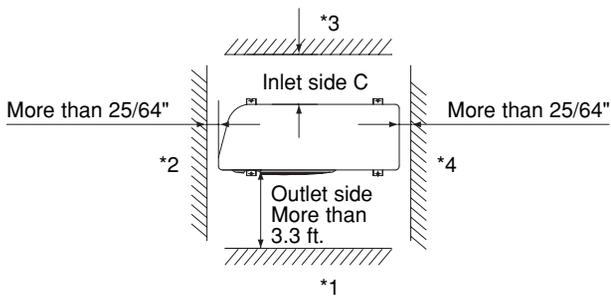
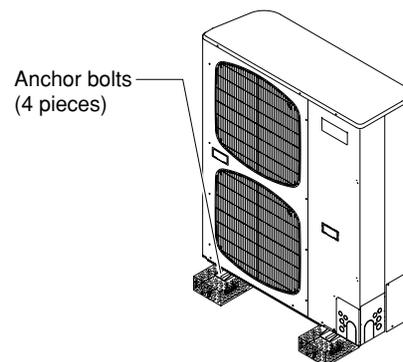

Fig. 2-2
Fig. 2-4
- allow enough room around the unit for air intake/exhaust and possible maintenance. (Fig. 2-2)
- Concerning inlet-side distance “C” (Fig. 2-2)
- If wall *1 is on the outlet side (Fig. 2-2), or if obstructions are present on all 3 sides *2, *3, and *4 (Fig. 2-2), then the minimum distance for “A” and “B” is 6.6 ft. (Fig. 2-4). Even if there is no wall on the outlet side, a minimum of 3.3 ft. is required.
- provide a solid base (concrete block, 4 × 16 in. beams or equal), a minimum of 6 in. above ground level to reduce humidity and protect the unit against possible water damage and decreased service life. (Fig. 2-4)